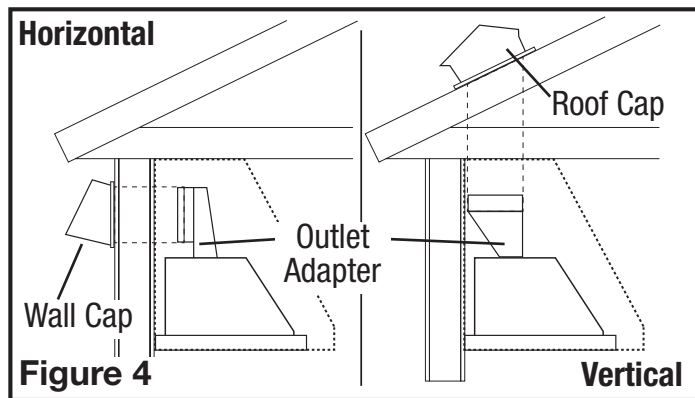

Figure 4
- Determine the type of ducting you will require (Figure 4).
**NOTE:** When the duct termination is similar to that shown in Figure 4 (passing through the wall to which the hood is mounted) the installation requires special consideration. Depending upon where the wall studs are located, it may be necessary to cut one or more of the wall studs and install a header and footer to transfer the load to the adjacent studs. Additional studs may need to be framed into the opening to attach dry wall or secure the hood. If this is your situation Air King recommends that you hire a professional and comply with all applicable codes.